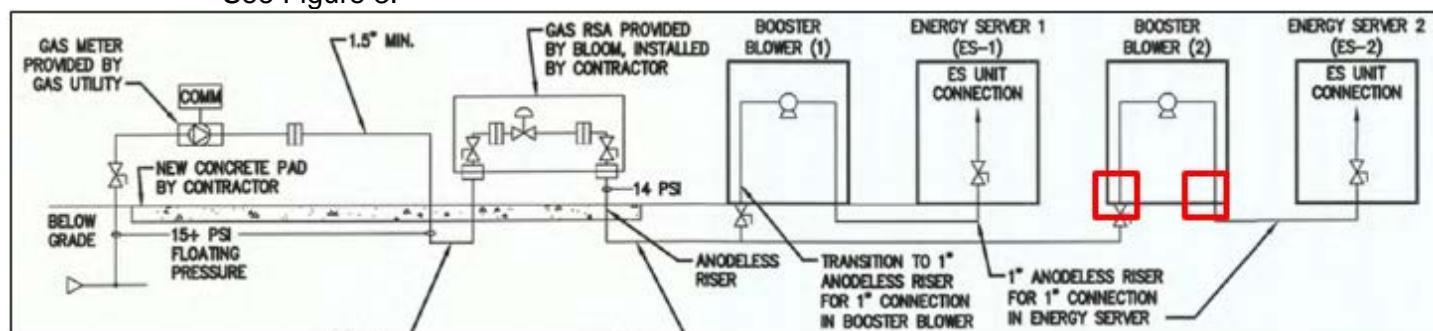

Figure 3
a. If a YBB, reach out to the Construction Program Manager. Future instructions will go here. See Figure 3.